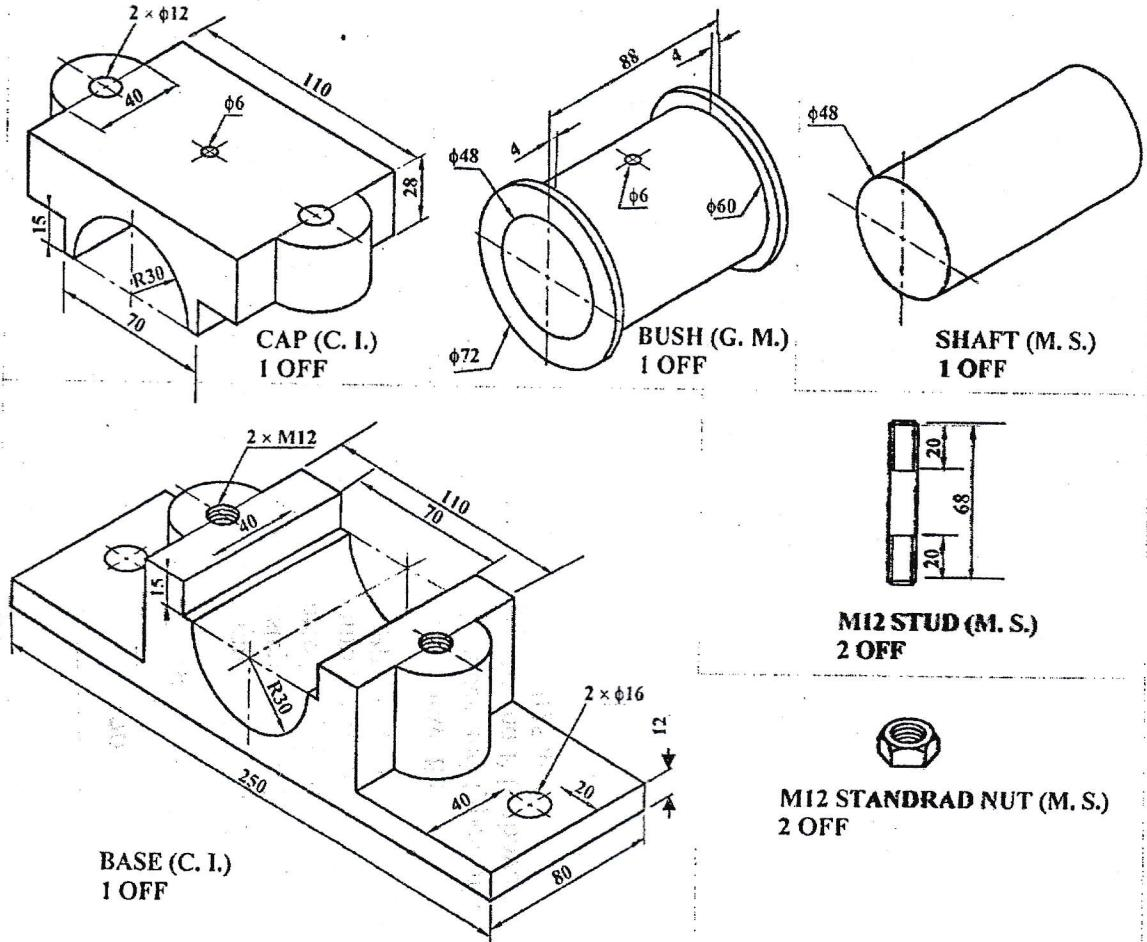

Figure P.5
5. Figure P.5 shows the details of a split bearing. Draw the assembled front view with section.